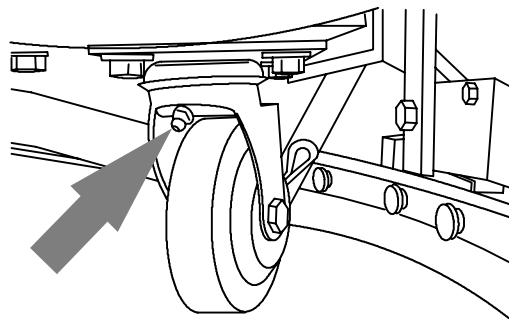

FIG. 64
4. Lubricate swivel caster grease fitting with a water resistant grease (Figure 64).